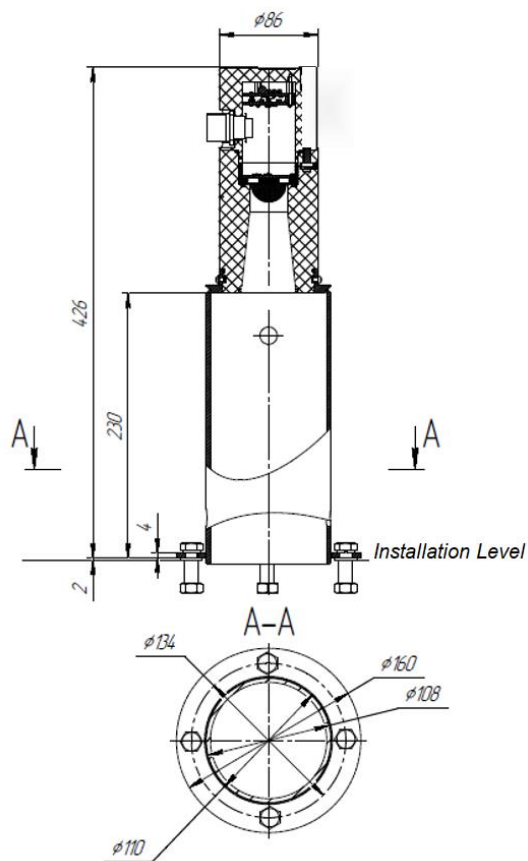

Figure 3. Overall dimensions of the U-150 Level Gauge with the general stand
- Basic dimensions at the processing facilities correspond to the dimensions of the U-150 (see Fig. 3, 4 and 5);
- Cut a hole of 110 x 110 mm on the top of the tank and drill holes (4 pcs.) for mounting the support (see Fig.3);